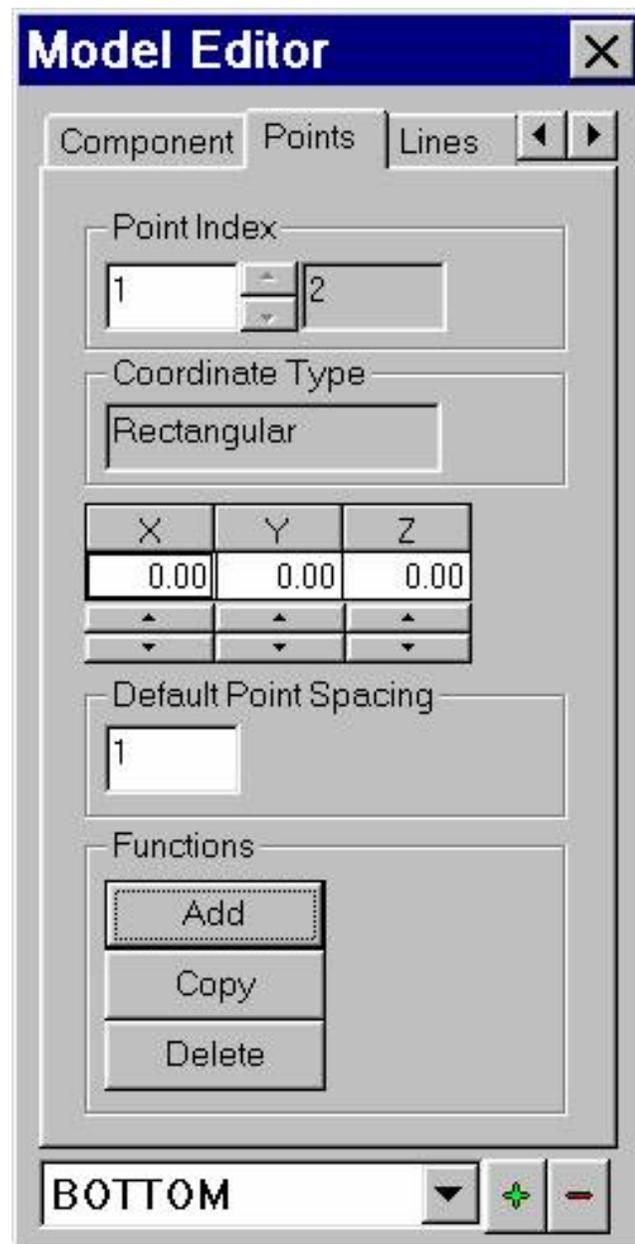

Figure 6
13) Click the Add button (see Figure 6)